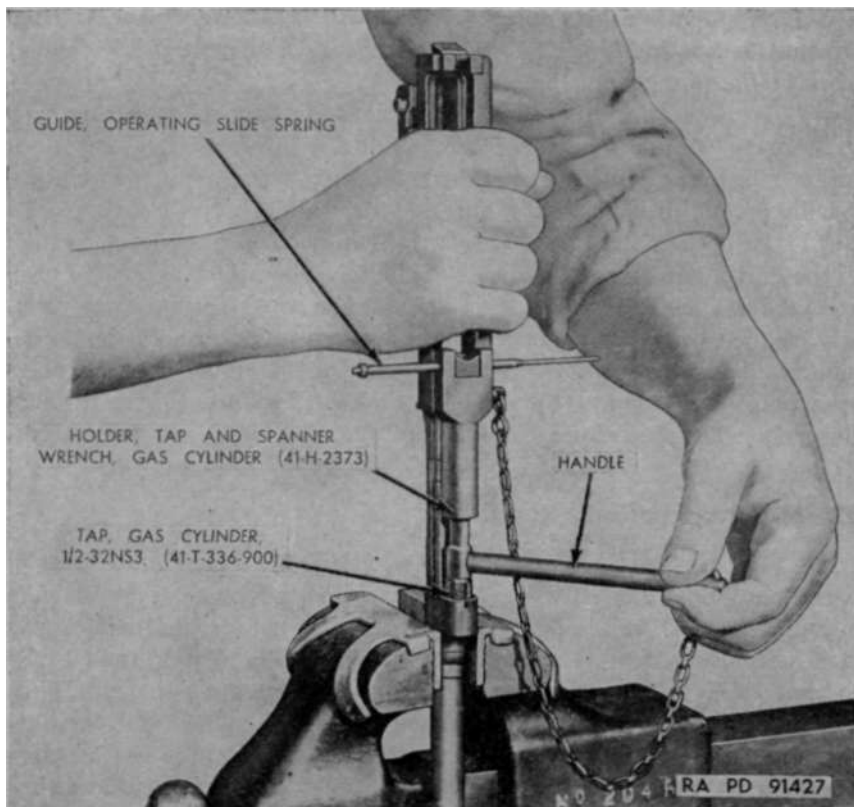

Figure 51. Chasing gas cylinder thread.
(2) *Chasing gas cylinder threads*. Chase threads of the gas cylinder, using gas cylinder tap, $1/2$ -32NS3 (41-T-336-900). (See fig. 51.) Dip tap in a suitable cutting oil and start tap carefully in gas cylinder. Cut threads a little at a time, using a forward and backward movement. Exercise care to stop tap as soon as it touches bottom to prevent damaging tap or cylinder. Remove tap and thoroughly clean chamber.
b. CARBON AND RUST. (1) *Carbon*. Because of the rearward position of the gas port and high gas pressure encountered there, excessive carbonization of cylinder and piston is unlikely. However, these parts